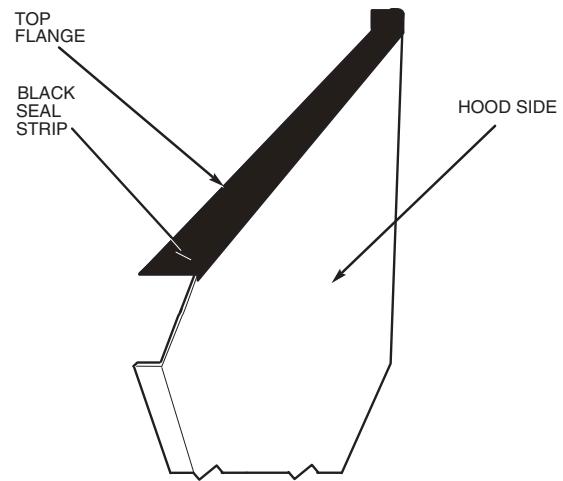

Fig. 26 — Adding Seal Strip to Top of Hood Sides
1. Apply black seal strip (provided in package) to outside top-edge of hood sides. Wrap seal strip over edge to cover top flange (6 hood sides). Make sure seal strip covers screw holes. Allow strip to overhang 3.18-mm ($1/8$ -in.) past the end opposite the mounting flange. See Fig. 26.